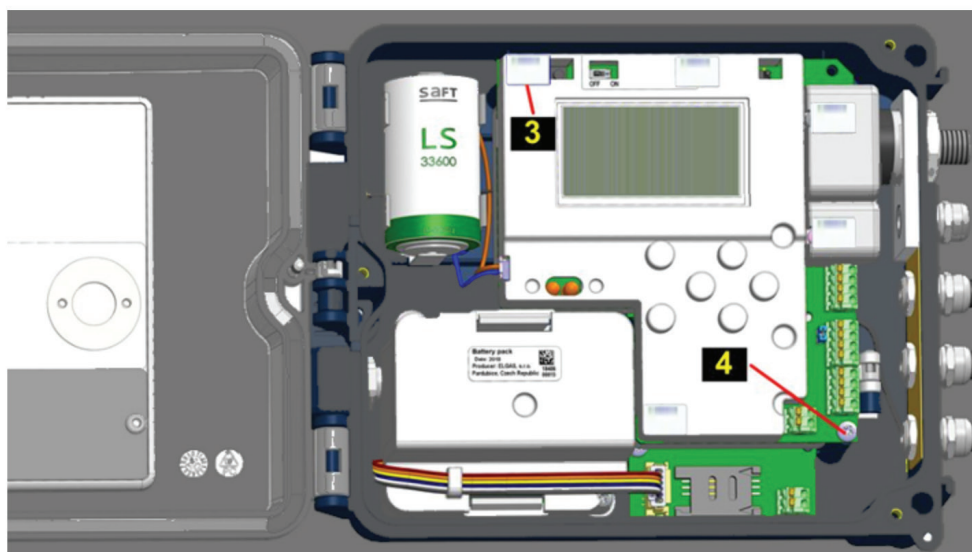

Fig. 38 Replacing the modem - releasing the EVC module
2. Releasing the EVC module (Fig. 38)
- Fold the EVC module to the modem and fix it with two screws (see Fig. 38). Insert the SIM card into the SIM card holder on the modem board (see paragraph 7.3.1).